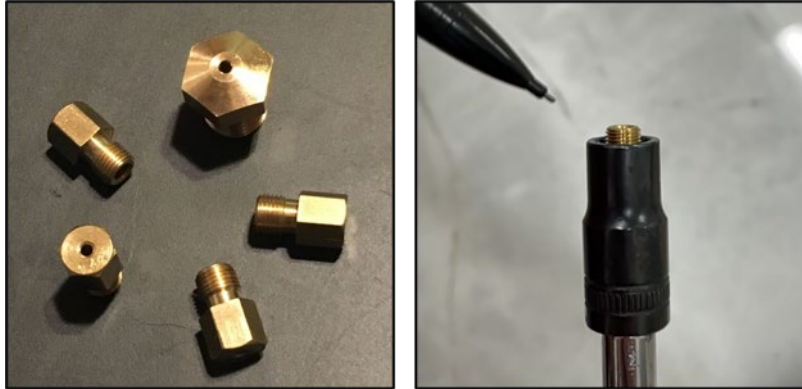

Figure 39 Gas Conversion Kit
The conversion process (orifice change-out) is the same for each gas. Whatever gas your grill is set for, it is supplied with a conversion kit (Figure 39 left) to allow changeover to the other fuel type. The customer is required to provide the LP gas inlet or NG regulator (4" water column, 1/2" ports).
- Use a shallow socket to ensure enough threads are exposed to get it started (Figure 39 right)